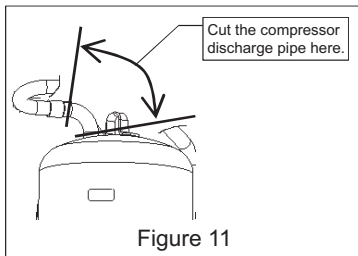

Figure 11
- (11) Remove the compressor discharge pipe by cutting the pipe where indicated in Figure 11 or by removing the braze.